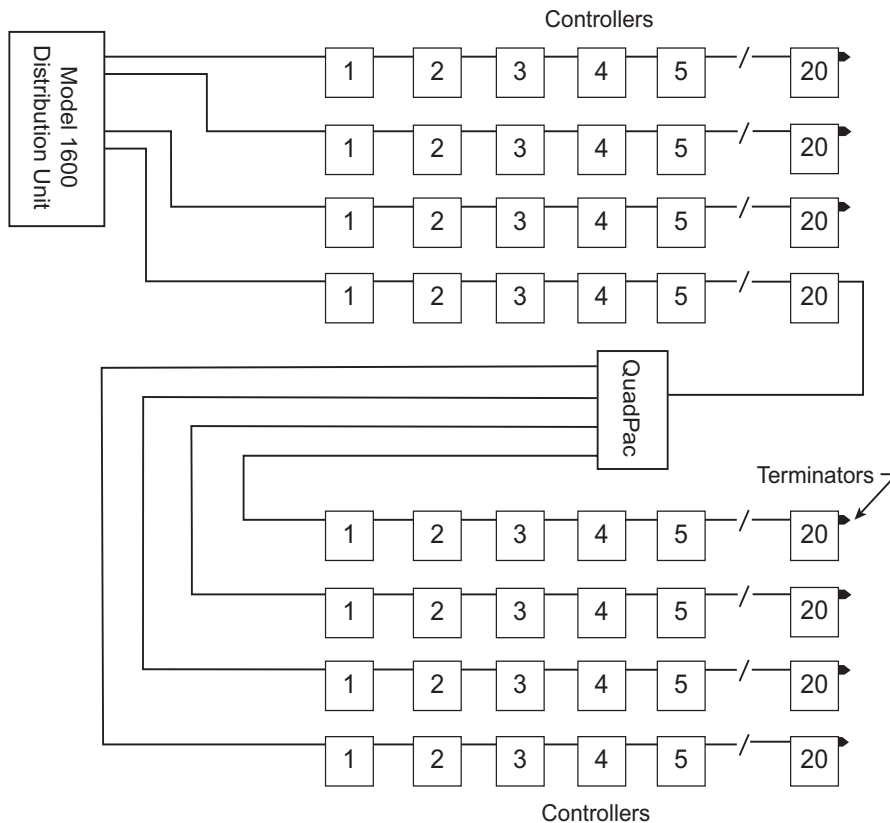

Figure 3: A QuadPac Wired Amplifier adds up to 80 ports
- QuadPac Wired Amplifier lets a facility expand the number of controllers supported by a distribution unit. With a QuadPac Wired Amplifier, you can add up to 80 additional controllers, basically 20 controllers for each output connector on the wired amplifier. For example, this means a Model 1600 Distribution Unit, which normally supports 80 controllers, when cabled with a single QuadPac Wired Amplifier, can support up to 160 controllers. See Figure 3.